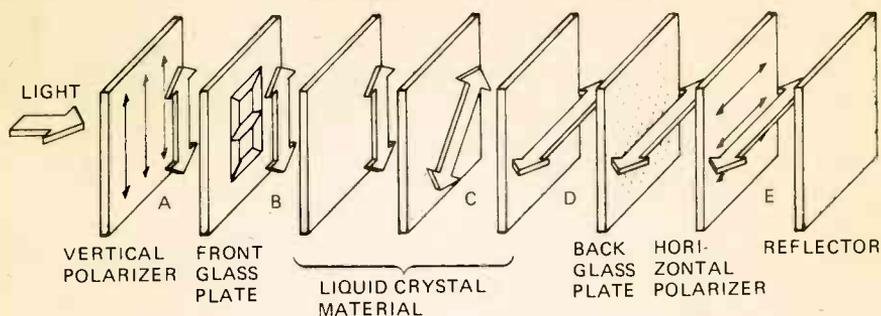

FIGURE 2. UNENERGIZED REFLECTIVE LCD.
missive, and transreflective. The reflective LCD makes use of a vertical polarizer, a horizontal polarizer, and a reflector, as shown in Fig.2. With no voltage (charge) applied, the preparation of the liquid crystal cell plates produces a uniform alignment of the crystal molecules. If the front and back plates are mounted at right angles to one another, according to the way in which the crystal molecules line up, a 90 degree rotation, or twist, occurs. Vertically polarized light entering the front of the cell (A) follows the rotation of the crystal alignment as it passes through the cell, as shown by sections B, C, and D. Having been rotated 90 degrees, the polarized light passes through the horizontal polarizer to the reflector (E). The light is then returned through the cell, again rotating 90 degrees, and passes out of the LCD through the front vertical polarizer.